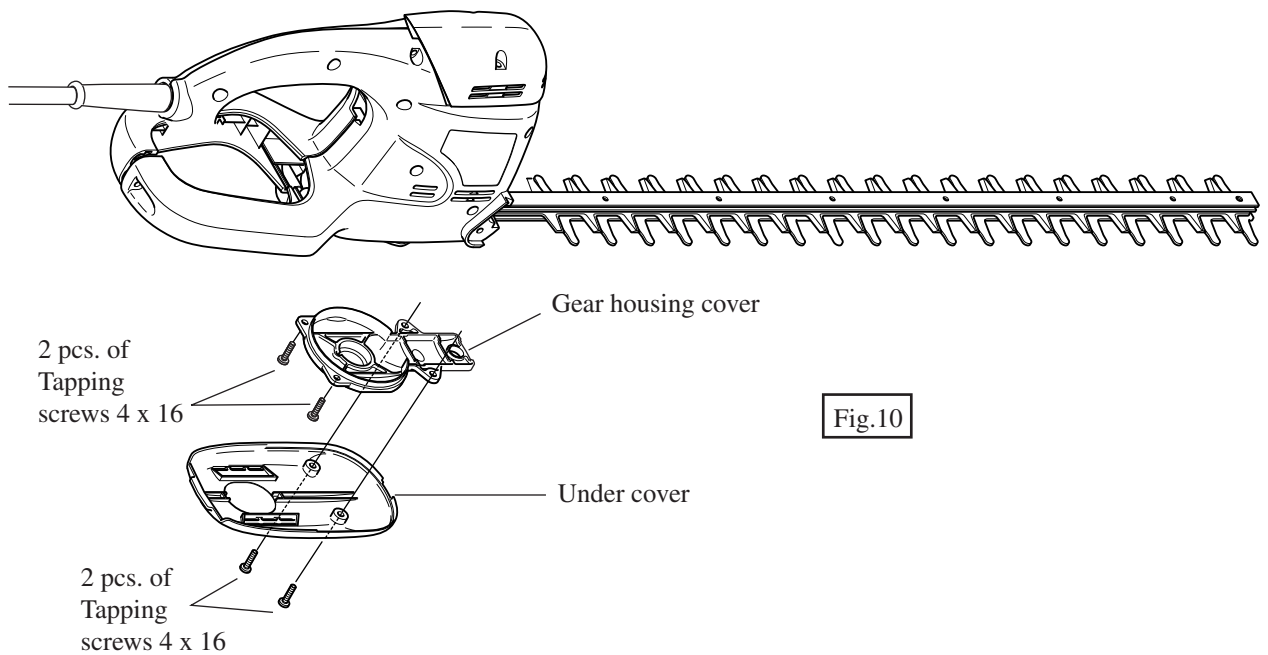

Fig.10
5. Fasten gear housing cover with 2 pcs. of tapping screws 4 x 16. And then, fasten gear housing cover with 2 pcs. of tapping screws 4 x 16 as illustrated in Fig.10.